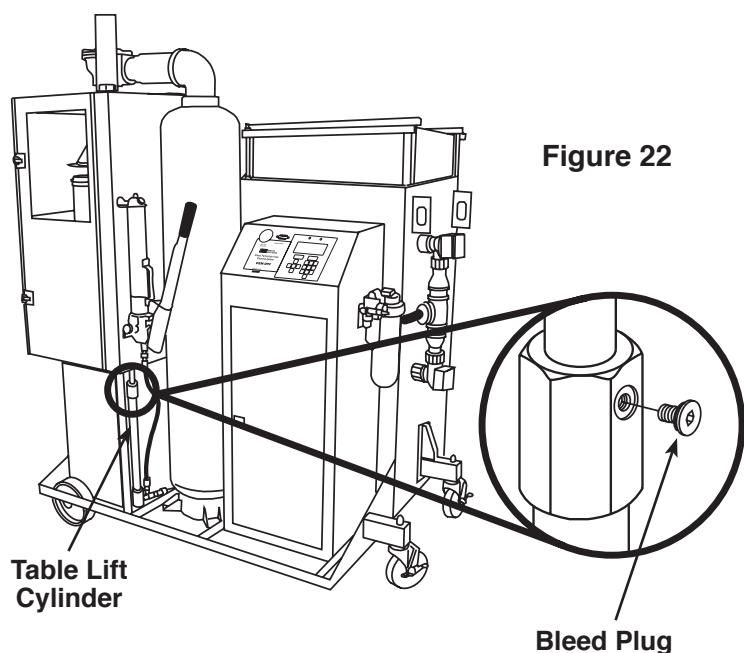

Figure 22
4. Remove the bleed plug from one table lift cylinder. See Figure 22.